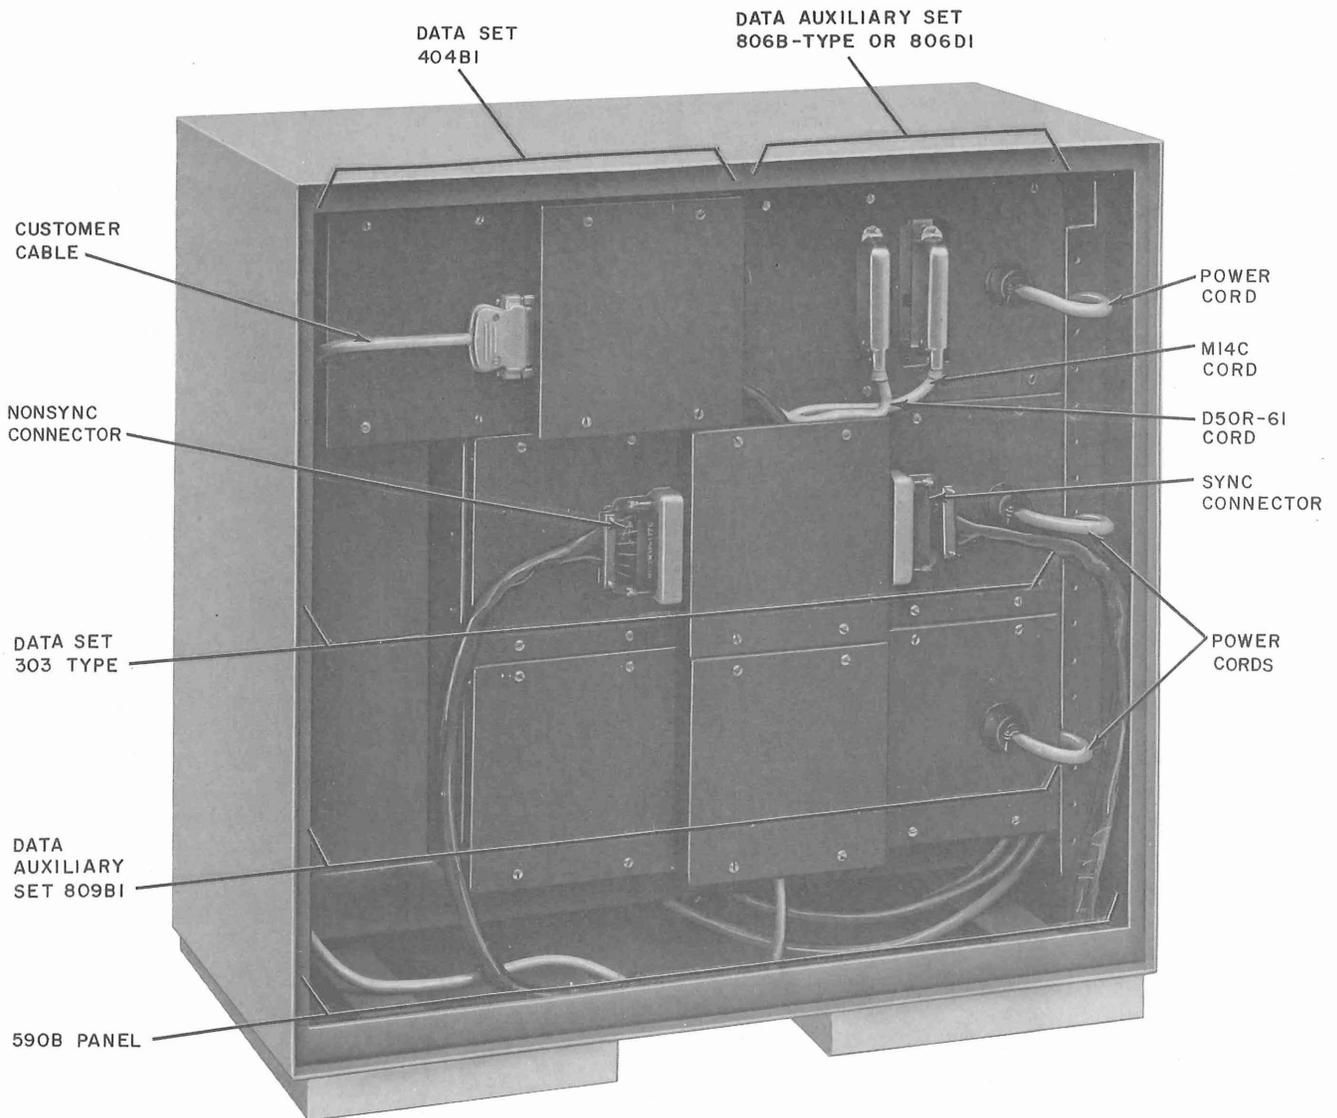
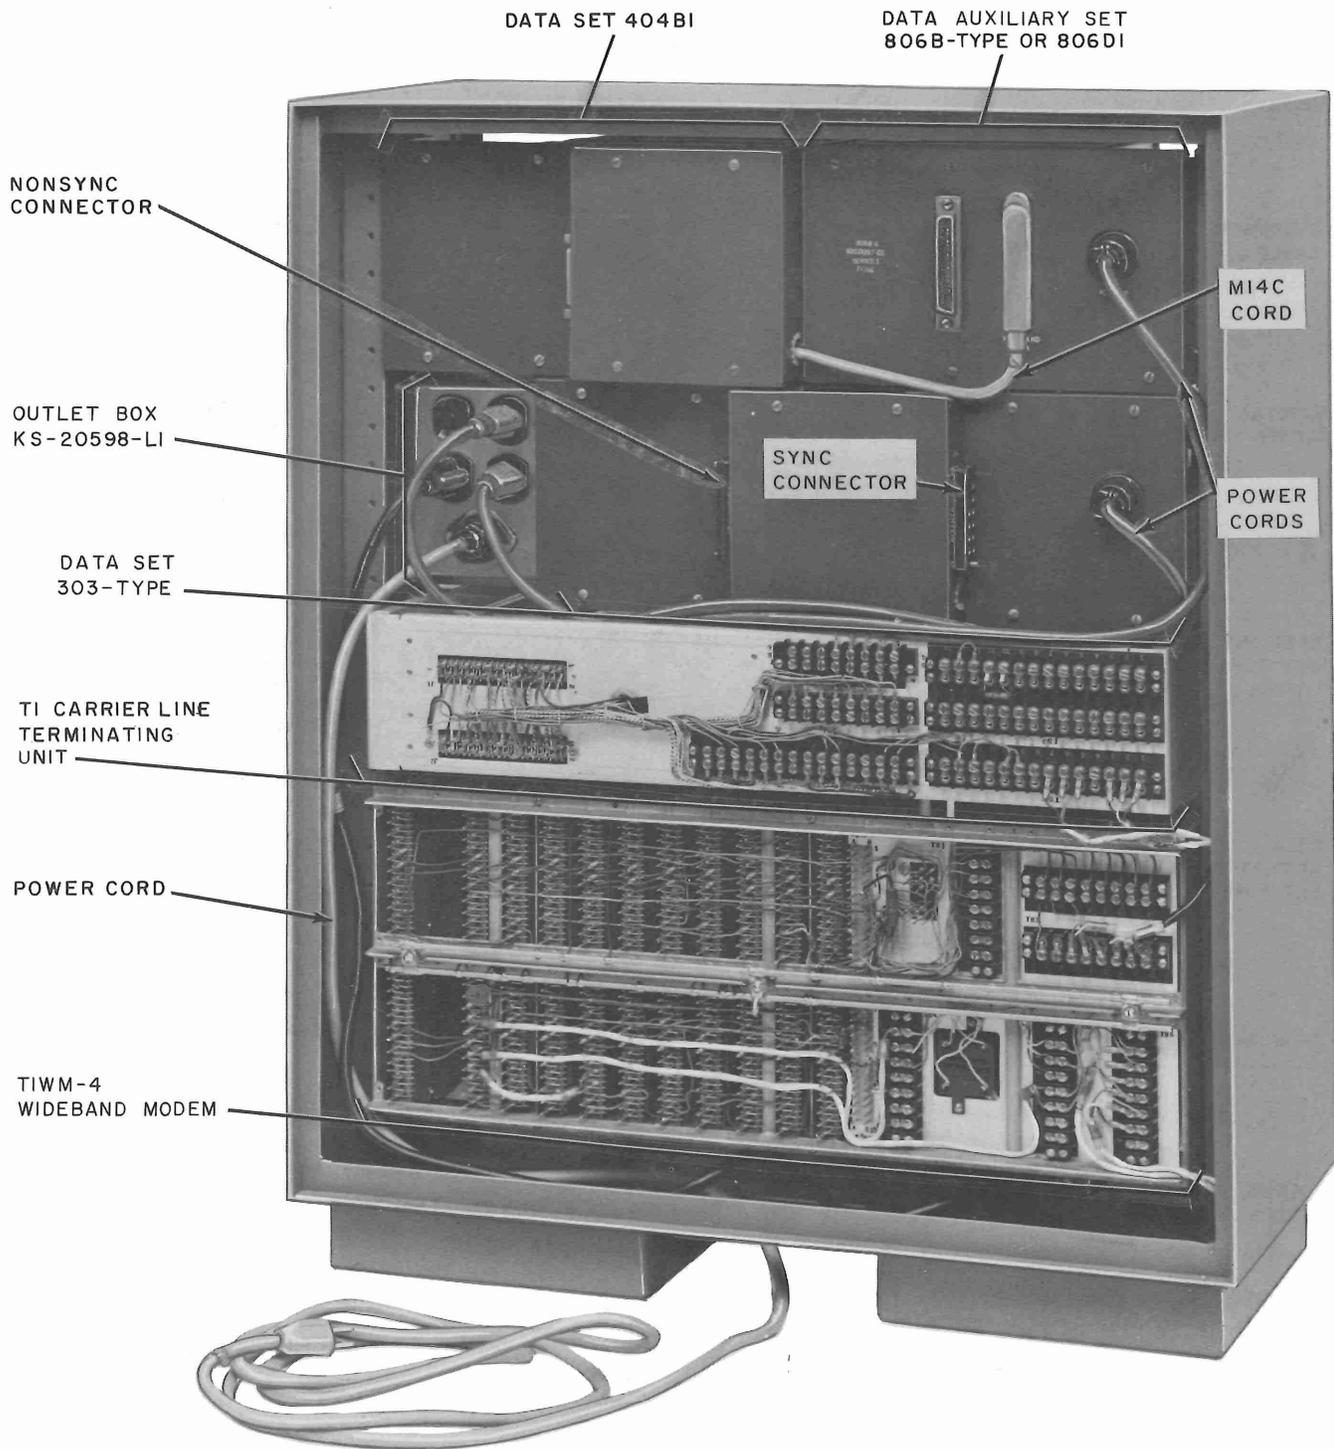

Fig. 2—Restored Polar Wideband Data Station—Rear View
Fig. 3—DC-Coupled Balanced Line Signal Wideband Data Station Cabling—Rear View
2.06 The data sets, data auxiliary sets, and coded equipment in the station derive their ac power from a 590B distribution panel mounted in the bottom of the cabinet or from outlet box KS-20598-L1 located at the left of DS 303-type (Fig. 2 and 3). The distribution panel is fastened to the mounting strips (located on the sides of the cabinet) by four bolts which screw into prethreaded holes (two on each side). The outlet box is mounted on the 87-type mounting bracket. The panel and outlet derive their power from a customer-provided ac outlet.
3.02 Assembly of all components which comprise a data station will be presented in progressive steps, the first of which will be the DS 303-type with its own particular options. Various data sets, data auxiliary sets, and coded equipment may be added as required to make up the wideband data station. Figures 2 and 4 show the complete restored polar wideband data station. Figures 3 and 5 show the dc-coupled balanced line signal wideband data station.
by four or eight bolts which screw into prethreaded holes (a minimum of two on each side) directly above the power panel (Fig. 2). Refer to Table A for mounting bracket hardware codes. When viewing the station from the front, the 26A power unit is to be located on the left side.
power panel or outlet box. Figures 2 and 3 show the proper routing of all cables. Cables and connectors associated with DS 303-type and data auxiliary sets are listed under their individual categories.